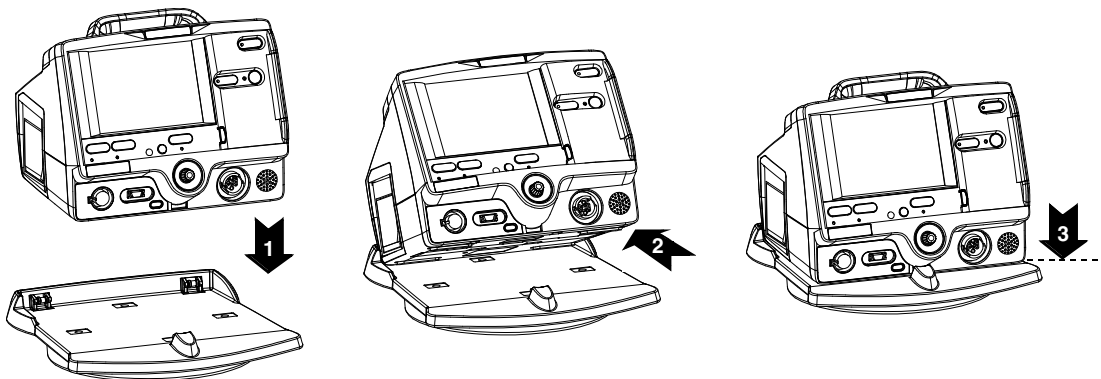

Figure H-1 Docking Station
- 1 Hold the LIFEPAK 20e defibrillator/monitor by the handle over the docking station (refer to Figure H-1, arrow 1).
- 2 Tilt the LIFEPAK 20e defibrillator/monitor backward into the docking station, aligning slots in the rear of the defibrillator to rollers on the docking station (refer to Figure H-1, arrow 2).
- 3 Align recess in lower front panel of the LIFEPAK 20e defibrillator/monitor with the front roller on the docking station and press down on the front of the LIFEPAK 20e defibrillator/monitor until you hear a click (refer to Figure H-1, arrow 3).